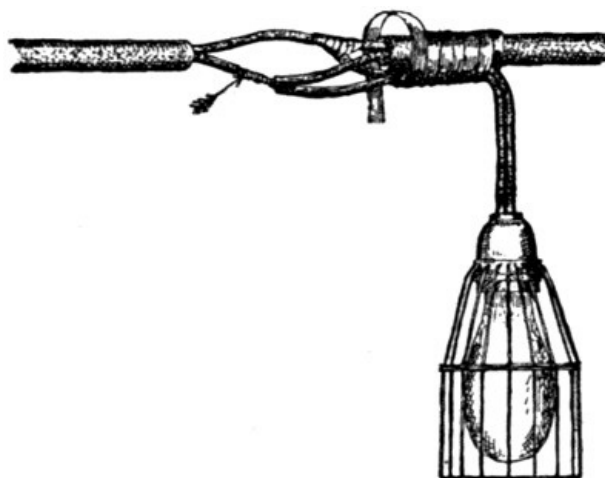

FIGURE 196.
*Festoons.*—Festoons should be made up as shown in Figure 196. Weatherproof sockets are generally used because the common brass shell sockets have too many parts that are liable to work loose on account of the constant handling the festoons are subjected to with traveling productions. The use of porcelain sockets, however, should be avoided; mica sockets seem to be generally preferred. The soldering also should be carefully done and only at the end, as indicated by the arrow in the cut. The branch wires are often taped to the main cable as indicated, but often also, circular loom is slipped over the cable in such a manner that the branch wires are supported by it. Short lengths of loom must be slipped on the cable before the tapes are made. A really well made festoon will last a long time and give very little trouble; while a poorly made one will cause much annoyance and much unfavorable comment from inspectors. Most of the festoon troubles are due to poor support of the branch wires. A single festoon does not often carry more than ten or twelve lights and usually not more than six or eight.